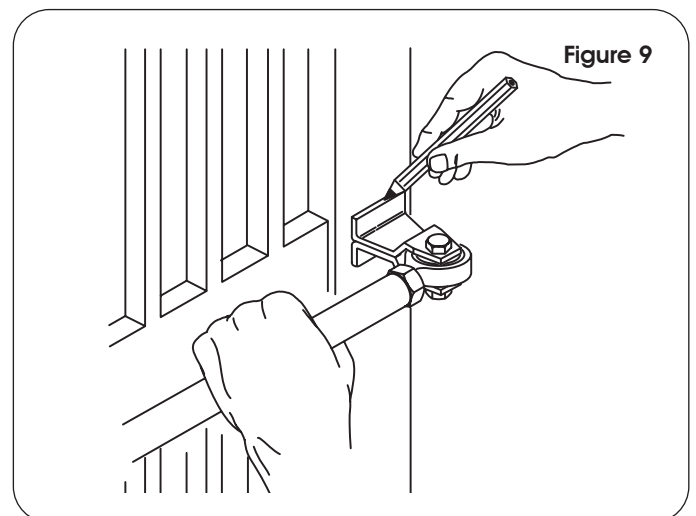

Figure 9
- 8.) Close the gate leaf and, while keeping the operator perfectly horizontal, identify and mark the location of the front bracket on the leaf (Fig. 9).